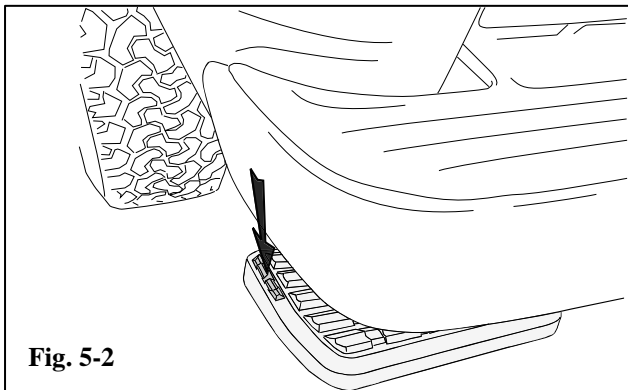

Fig. 5-2
- (2) This allows foot access for deploying step. (Fig. 5-2)